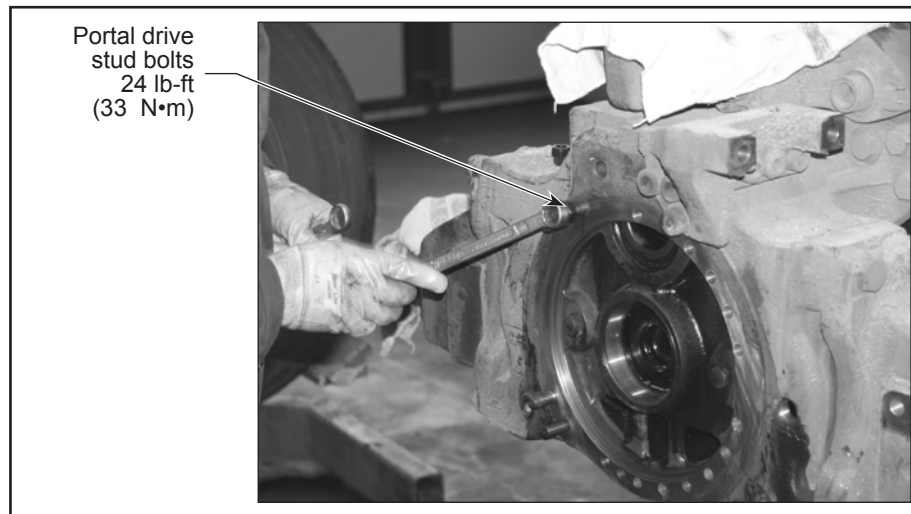

Figure 20 - Portal Drive Stud Bolts
2.49. Install the stud bolts of the portal drive and secure with Loctite Type no. 262 (or equivalent). See Figure 20.